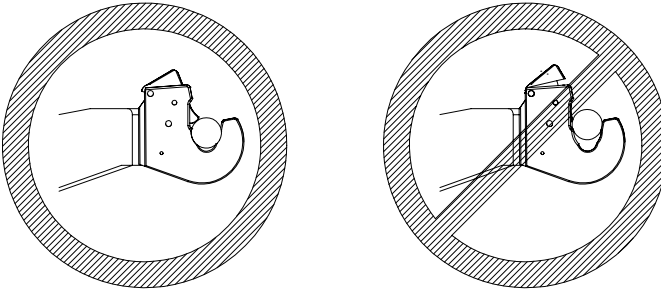

Fig. 6.9: Locking the balls
- Check whether the balls are locked correctly, see fig. 6.9.